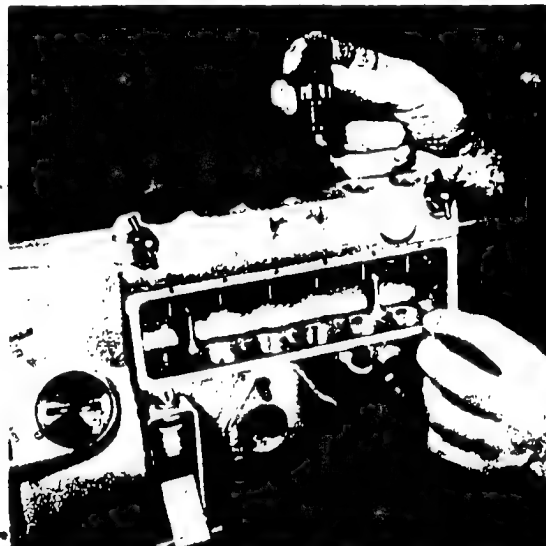

Fig. 45 Insert delivery valve and joint washer, fit helical spring and screw in delivery-valve holder
b) On standard-type pumps, insert the complete delivery valve (16) and joint washer (18). Fit helical spring (17) (Fig. 45) and screw in and tighten delivery-valve holder (19) with suitable spanner. As the joint washer will here "subside", **repeat tightening twice** (for tightening torques, see page 28).